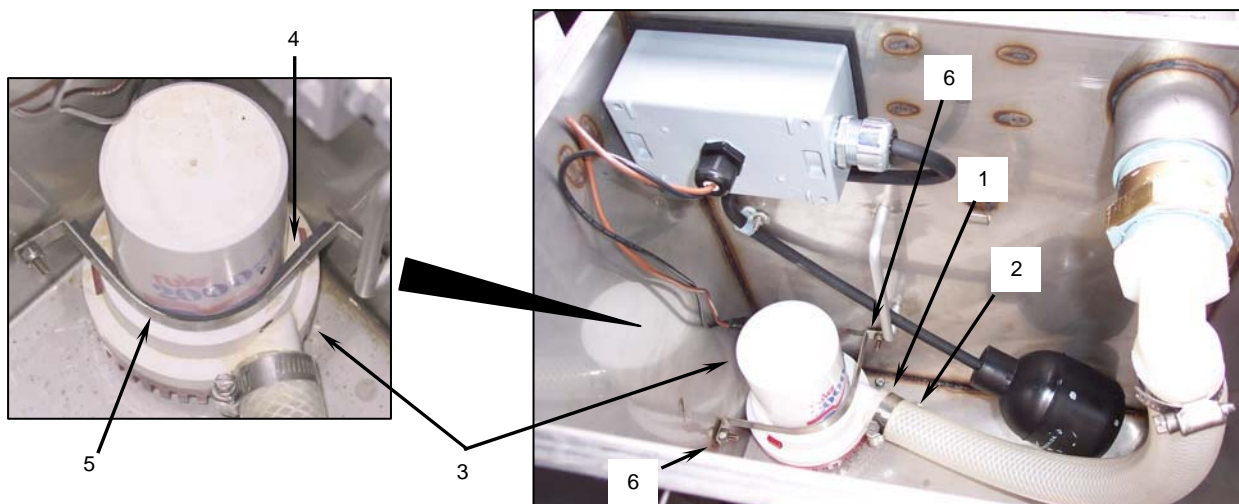

Figure 6. Installing the New Grease Separator Pump.
- h. Make sure the hose clamp (**Figure 6, Item 1**) is over the pump discharge tubing (**Figure 6, Item 2**), then slide the tubing over the new pump discharge outlet. Do not tighten the hose clamp yet.
- i. Position the new pump (**Figure 6, Item 3**) in the bottom corner of the pump compartment and secure with the gasket (**Figure 6, Item 4**), the pump mounting bracket (**Figure 6, Item 5**), and the two self-locking nuts (**Figure 6, Item 6**).
- j. Slide the hose clamp (**Figure 6, Item 1**) over the tubing at the pump discharge outlet and tighten the clamp.